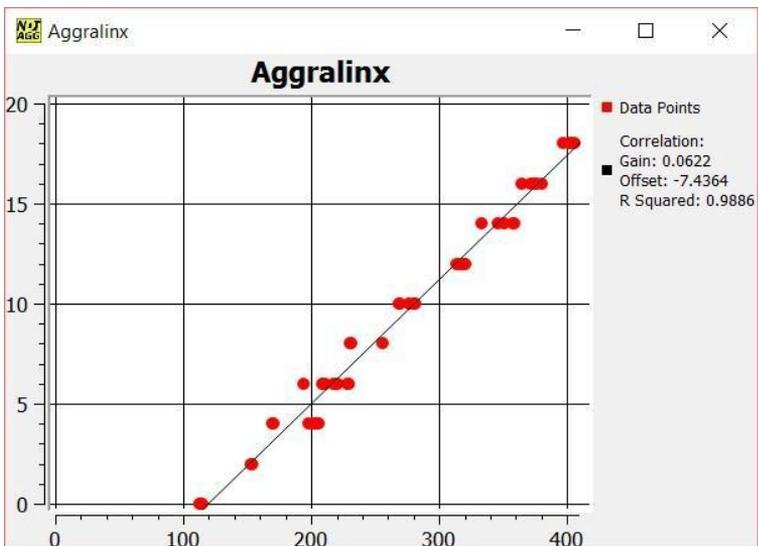

Figure 30: Software Regression Graph
4. Once the last data point has been entered, click **Finish** in order to generate the correlation curve. (See Fig. 30)